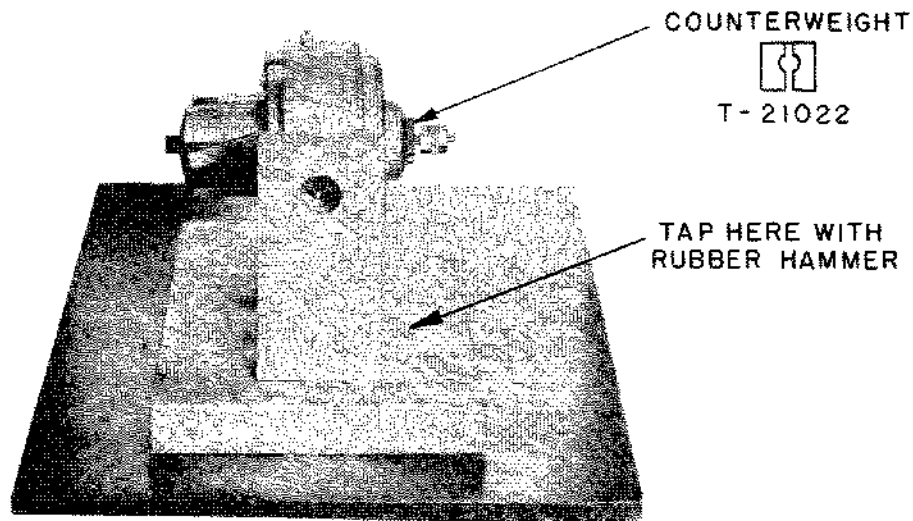

FIGURE 38 BALANCING THE GYRO HOUSING AND PENDULUM ASSEMBLY, HORIZONTAL POSITION, WITH COUNTERWEIGHT ON BALANCING STUD
4. Place special counterweight, T-21022, on threads of balancing stud as close as possible to top of housing (see Fig. 38). Move locknuts and washers until assembly will stand perfectly horizontal on either side when base of fixture is tapped with rubber hammer. It will be necessary at times to add or remove washers, but the use of more than five washers should be avoided as this is an indication that the rotor is not properly located on its shaft. Recheck the vertical balance.